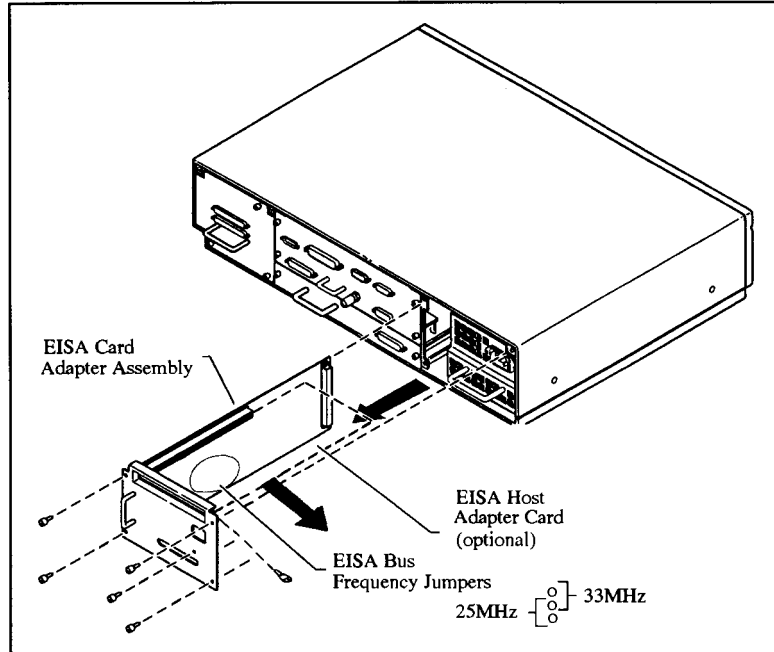

Figure 5-6. EISA Host Adapter Card Removal
- 2). Remove the EISA Card Adapter from the System Unit cabinet as shown in Figure 5-6.
- 3). Remove the EISA host adapter card from the EISA Card Adapter assembly as shown in Figure 5-6.
- 4). Configure the EISA Bus frequency jumpers on the replacement EISA card adapter for 25 Mega-Hertz operation on Model 720 systems and for 33 Mega-Hertz operation on Model 730 systems. See Figure 5-6 for jumper positions. **Skip Steps 5 and 6.**